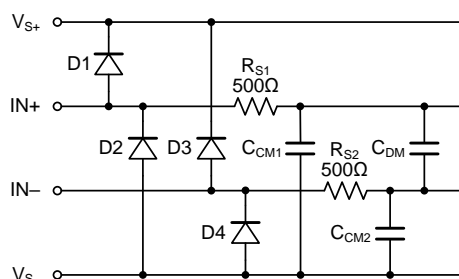

Figure 1. Input EMI Filter and Clamp Circuit
Figure 1 shows the input EMI filter and clamp circuit. The LTC8741/8742/8743/8744 comparators have
Infrared (IR) communication is inherently immune to RF interference as long as there is a line-of-sight path between the transmitter and the receiver. It is also one of the lowest cost communication schemes. This makes it a good choice for implementing wireless communications in applications such as utility metering. A common system topology to extend battery life is to use a power efficient IR receiver analog front end (AFE) that is always on and wakes up the host only when there is a valid IR signal detected as shown in Figure 1.
Figure 1 shows the IR receiver system block diagram. The host MCU is normally in the shutdown mode (during which the quiescent current is less than 1  $\mu$ A) except when data is being transferred.